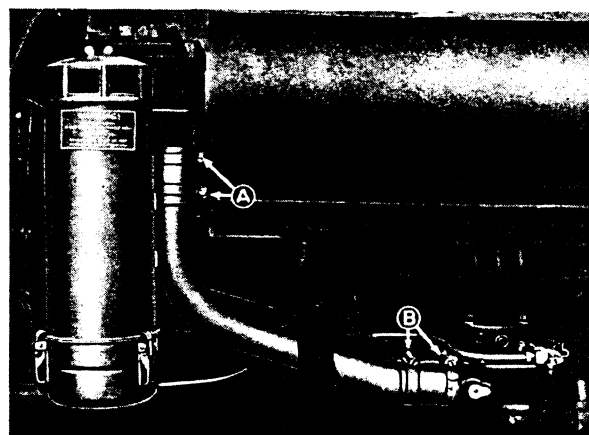
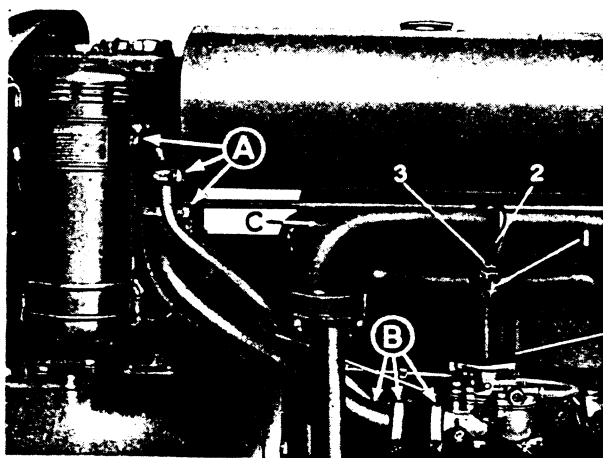
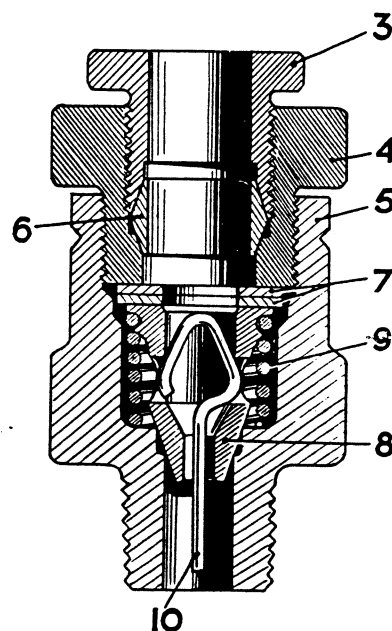

FIG. 7
FIG. 9
FIG. 10
For illustration of air cleaner fitted to tractors type TE-20 see Fig. 7, or to all other tractors see Fig. 9.
6. Ensure that the hose connections A and B, Figs. 7 and 9, on the air pipe leading from the cleaner to the carburetter (also, in the case of all tractors except type TE-20, from the cleaner to the crankcase) are air tight and the hoses not cracked or swollen.
**Note :** Tractors except type TE-20—see Fig. 9. The air cleaner has a second, smaller, outlet connected by a rubber hose to a pipe leading through an elbow to the crankcase.
### Air Bleed to Induction Manifold — Engine Ventilation. Except Tractors type TE-20. Figs. 9 and 10.
An air breather valve assembly (1), Fig. 9, is fitted to the induction manifold. Through this valve is induced a bleed of warm oil-saturated air, from the chamber enclosed by the rocker cover (C), assisting carburation and providing upper cylinder lubrication. The consequent depression in the rocker cover creates a flow of air through the push rod passages from the crankcase, which is replaced by air from the small outlet of the cleaner. The original design of the valve provided for an automatic weakening of mixture with increasing engine speeds. A modification subsequently incorporated in production above engine serial No. S.12771E, recommended the fitting of sufficient washers (7) as illustrated in Fig. 10 to seat the valve (8), thus providing a constant air bleed irrespective of engine speed. To ensure that the valve makes a seal on its seat, a gap must be maintained between the valve body (5) and nut (4). All figures given for carburettor adjustment apply only if this modification has been carried out.
### To Remove Air Breather Valve Assembly. See Fig. 9.
### To Dismantle and Clean Air Breather Valve. See Fig. 10.